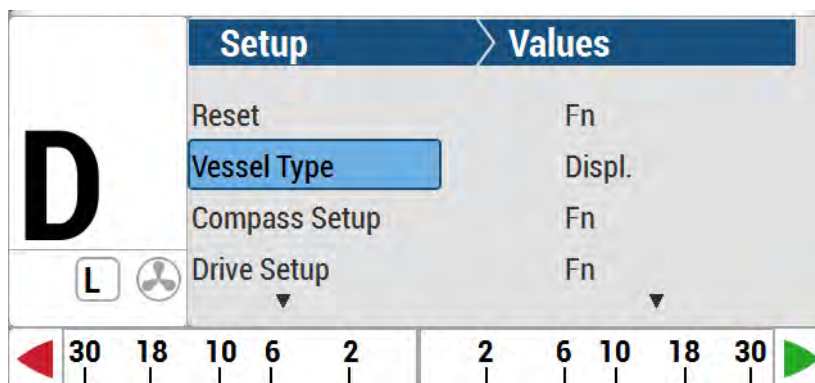

Figure 33 – Set Vessel type
2. Select the Vessel Type menu line shown in Figure 33, and set the type of your boat (see Table 4 - Vessel Type).